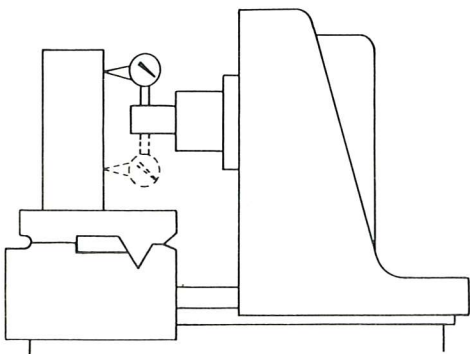

Fig. 2G. Top of table is square crosswise with sweep of spindle.
5. Replace the lower right screw (A) in the spindle front support.
6. Check the spindle alignment (Figs. 2G and 3G):